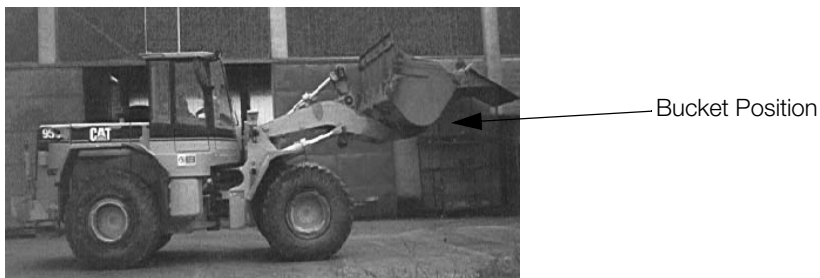

Figure 3-8. Bucket Position for Get Start Angle
6. Scroll to the Start position and raise the boom to the weighing start point. See Figure 3-8.